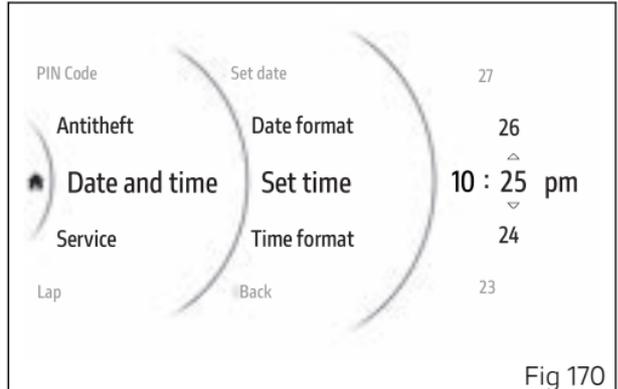

Fig 170
The minute number becomes selectable and is displayed with two arrows placed above and below it; the available values are also displayed (Fig 170). Use buttons (1) and (2) to scroll and select the desired value. Press ENTER (3) to confirm and move on to the AM/PM selection.